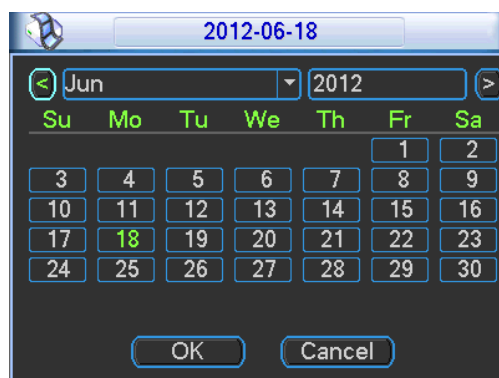

Figure 6-27
- Record types: There are four types: regular, motion detection (MD), Alarm, MD & alarm.
- Holiday setting: Click it you can see an interface shown as in Figure 6-27. Here you can set holiday date. Check the box, it means current channel shall record as your holiday setup. Please go to the Period interface to set the holiday date record setup.